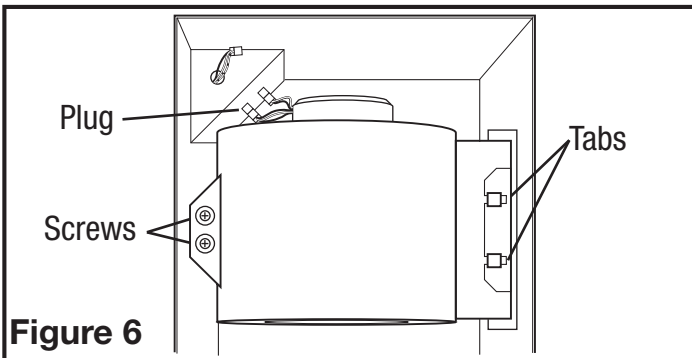
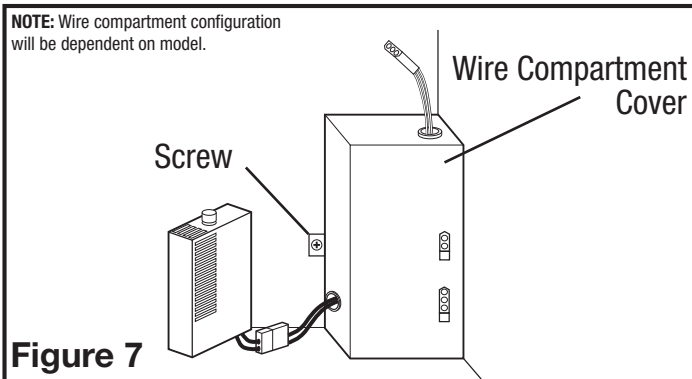

Figure 6
Figure 7
- 1b. Internal Wire Compartment: If the motor is already installed in the housing, remove the two screws holding the blower assembly in place. Lift up on the assembly and slide it out of the tabs on the housing (Figure 6). Remove the wire compartment cover screw and place the cover in a secure place (Figure 7).